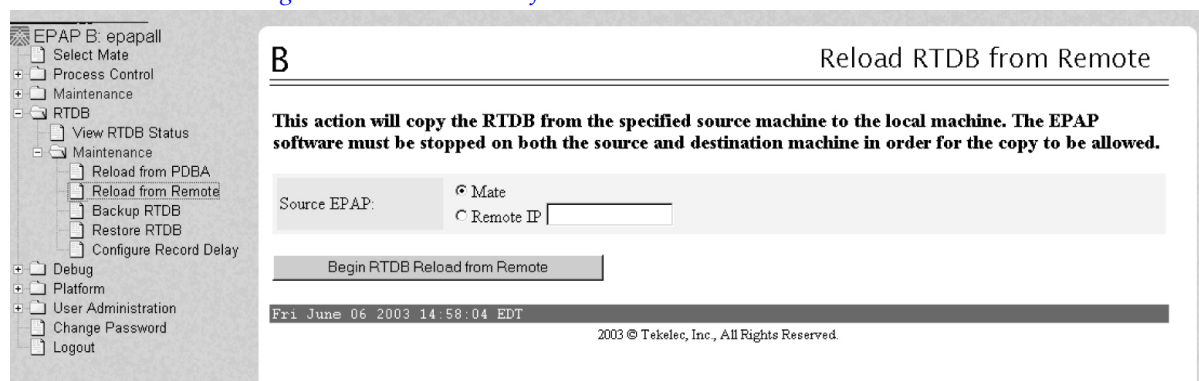

Figure 35: Reload RTDB from Mate EPAP
The screen shown in Figure 35: Reload RTDB from Mate EPAP shows this function.
8. Ensure that the **Mate** radio button is filled in, as shown in Figure 35: Reload RTDB from Mate EPAP and click the **Begin RTDB Reload from Remote** button.